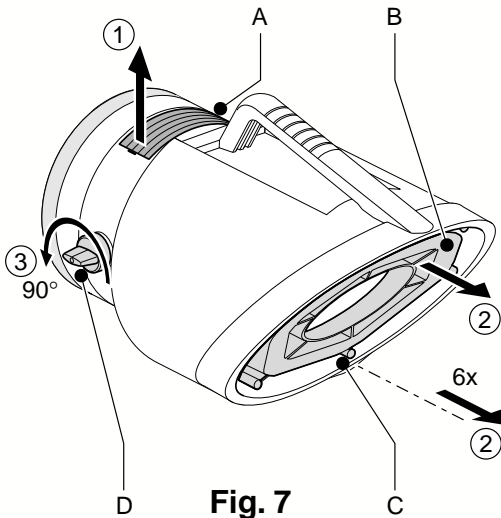
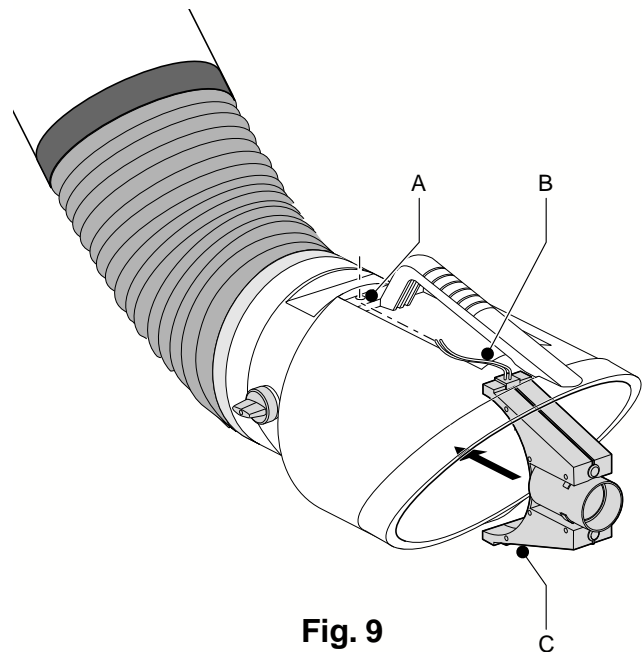

Fig. 7
Fig. 9
1. Pop out the sealing plate (Fig. 7, Item A) on the top of the hood with a screwdriver.
2. Remove the six screws (Fig. 7, Item C) and the air-flow focus vanes (Fig. 7, Item B).
3. Open the airflow throttle valve (Fig. 7, Item D).
Feed the lamp (and sensor leads, if used) through the hole (Fig. 9, Item A) in the top of the hood; push the top leg of the lamp housing into position, then snap in the bottom leg. Remount the airflow focus vanes in the open end of the hood, using the six screws (Fig. 7, Item C).